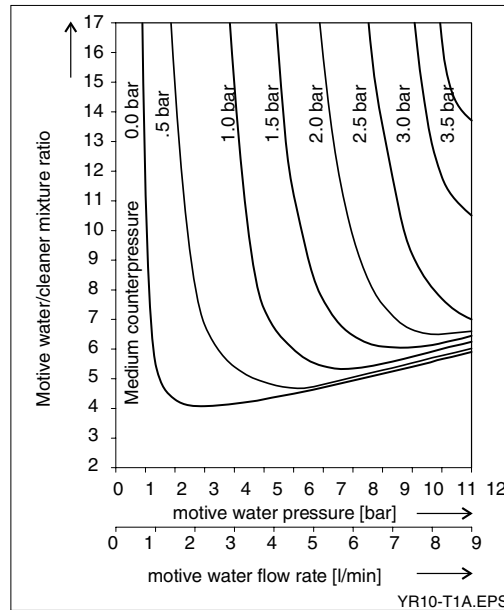

Fig. 4.7 Diagramme of characteristics motive water pressure / medium counter pressure
The mixture ratio can be adjusted with the aid of a throttle screw (see fig. 4.6.).The relation between motive water pressure and medium counterpressure is shown in fig. 4.7.
- The motive water admission pressure should be 2 ... 12 bar (see diagramme in fig. 4.7).